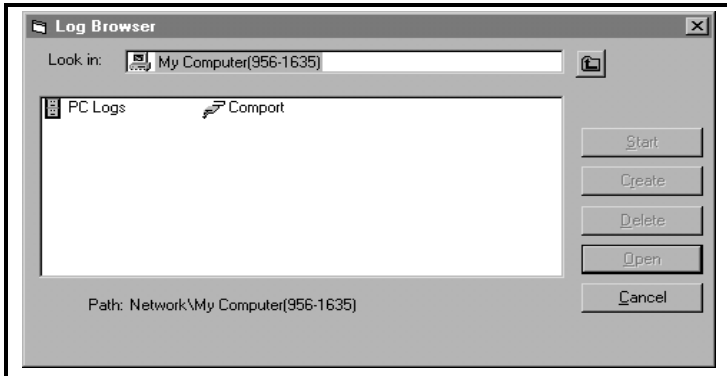

Figure 6-22: Log Type Selection
2. Double click on the *computer name* to advance to the dialog box shown in Figure 6-22 below.